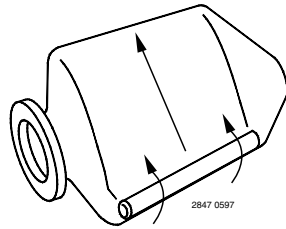

Figure 4 – Roll diagonally toward neck
- B. To get tightest possible wrap, start on one side at top and TIGHTLY roll water cell diagonally to other side (see Figure 4). To force out as much air as possible, be sure to roll toward water cell neck opening.